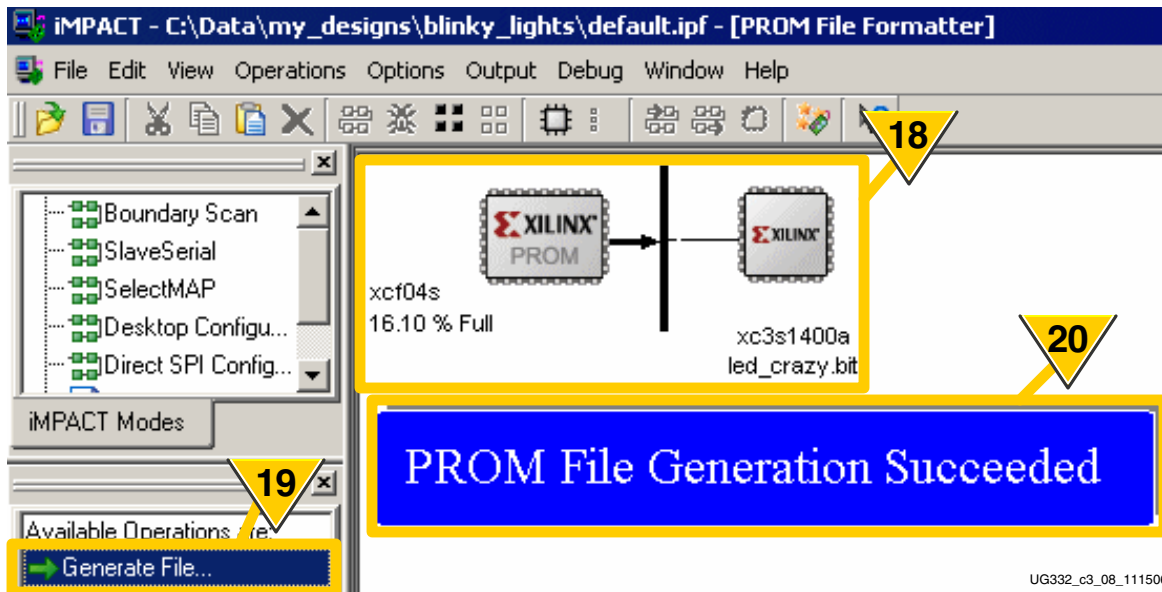

Figure 3-13: **Generate PROM File**
18. As shown in Figure 3-13, the iMPACT software graphically displays the Platform Flash PROM and associated FPGA bitstream(s).